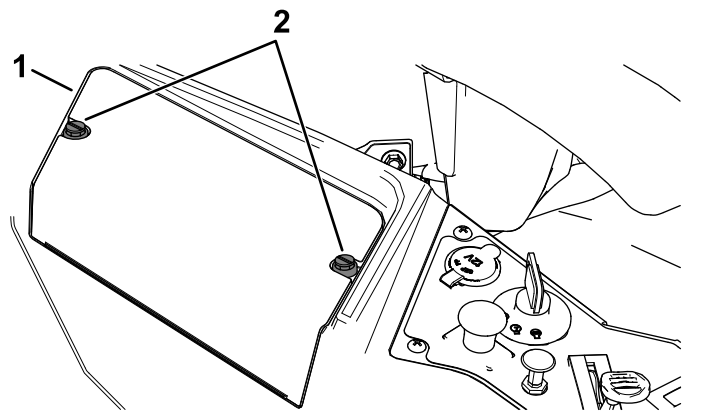

Figure 57
3. Loosen the 2 fasteners on the battery cover counterclockwise 1/4 turn, and remove the battery cover (Figure 57).
6. Install the battery cover by pushing down and tightening the 2 fasteners clockwise (Figure 57).